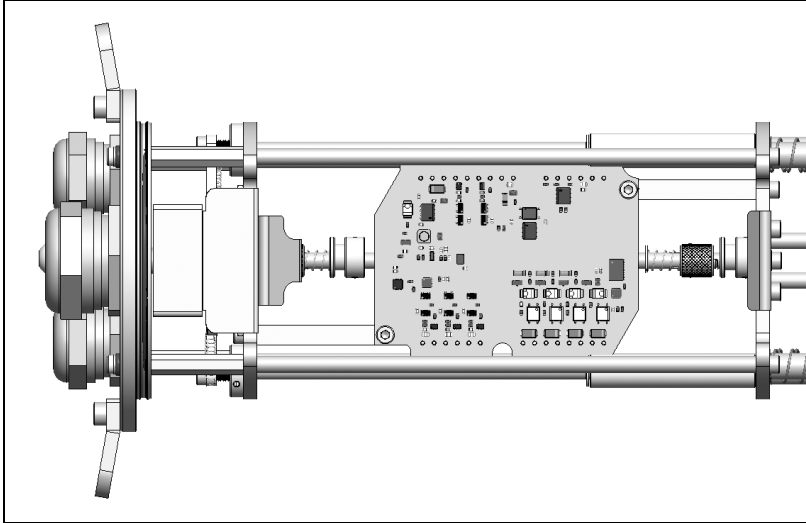

Figure 41: Mounting of the Industrial PIF (top view)
5. Fix the Industrial PIF with the screws (M3x5) as shown in **Figure 41**.